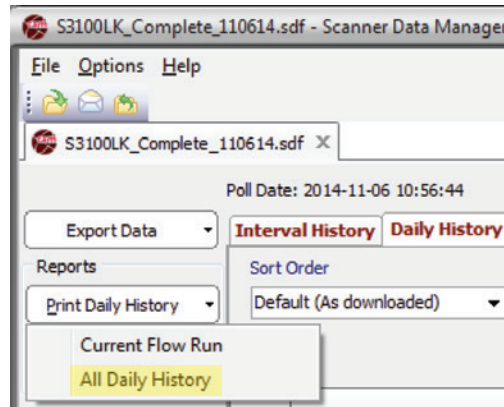
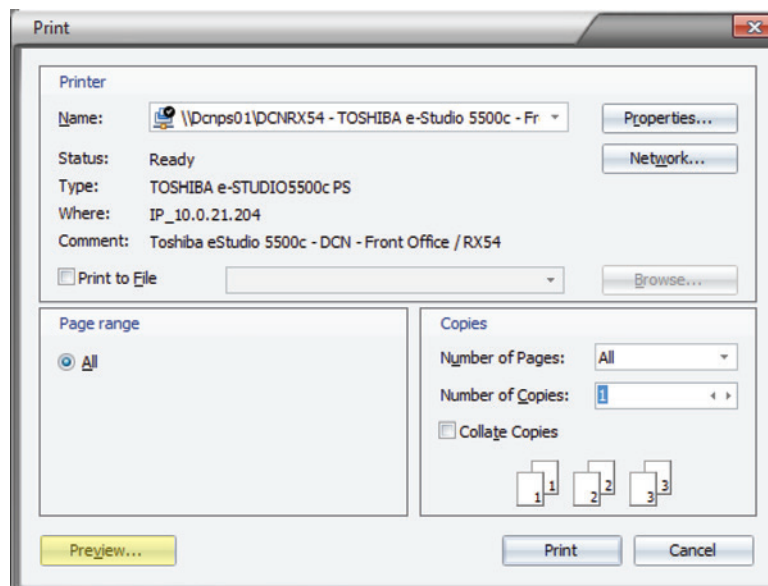

Figure 4.7—Reports>Print dropdown menu with “All [Data Type] History” selected
Figure 4.8—Print dialog showing Preview button
2. Click the **Print [Data Type]** button and select “All [Data Type]” from the dropdown menu (Figure 4.7, page 46). The *Print* dialog will appear (Figure 4.8, page 46).